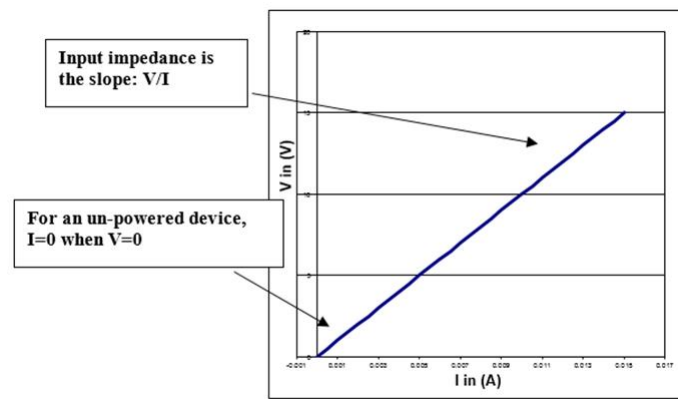

**Figure 3: Measuring Input Impedance**
**Measure** the input impedance of the scope using the circuit given in **Fig. 3**. Treat the scope as a unknown resistor. Use a frequency of 100Hz, a driving amplitude of 1V p-p, and several different resistors (for example  $0\Omega$ ,  $200k\Omega$ ,  $470k\Omega$ ,  $820k\Omega$ ,  $1M\Omega$  and  $2.2M\Omega$ ). Record the scope's input voltage for each resistor, conveniently the scope's input voltage is displayed on the scope itself.